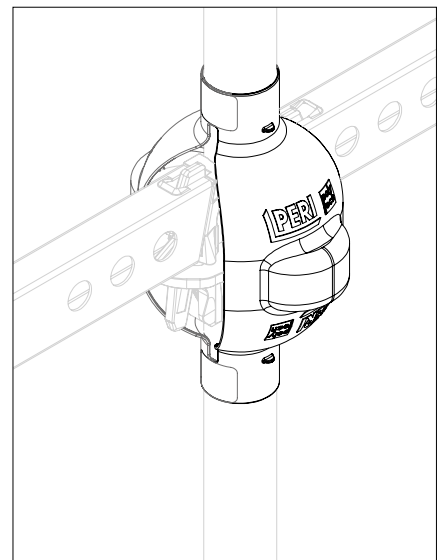

Fig. A8.06a
3. If ledgers are arranged longitudinally: fit Poly Cover UPC-C on both sides. (Fig. A8.06a)